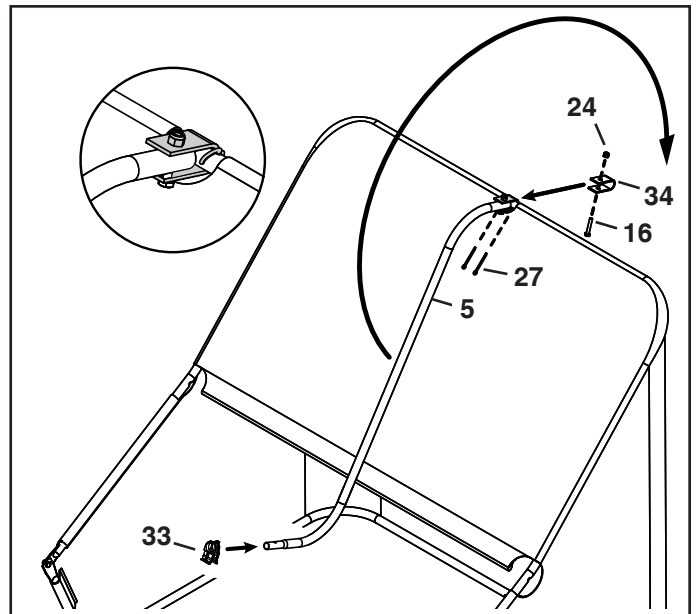

FIGURE 14
21. Install two cotter pins (27) in the rear hopper tube. Bend ends of cotter pins around tube.
22. Slide the dump handle clip (33) onto the dump handle.
23. Attach the dump tube to the rear hopper tube using a U-clamp (34) placed between the cotter pins, a 1/4" x 1-1/2" hex bolt (16) and a 1/4" nylock nut (24). See figure 14.